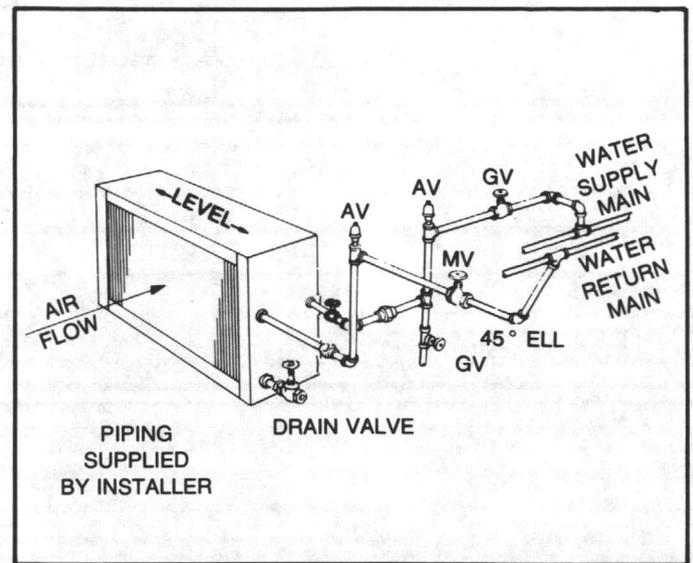

FIGURE 20 - Type W, WA, WL, and DL, Two-Row Water Coil
- b. When the return line rises and is above the top of the coil, vent from the top of the return header horizontally to the return piping. See Figure 20.